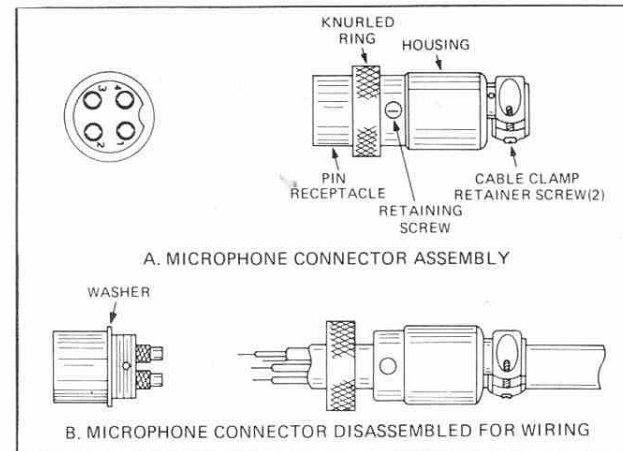

Fig. 2 Microphone plug wiring.
4. Feed the microphone cable through the housing, knurled ring and washer as shown Fig. 2.
Be sure that the housing and the knurled ring of Fig. 2 are pushed back onto the microphone cable before starting to solder. If the washer is not captive to the pin receptacle body, make sure that it is placed on the threaded portion of the pin receptacle body before soldering.